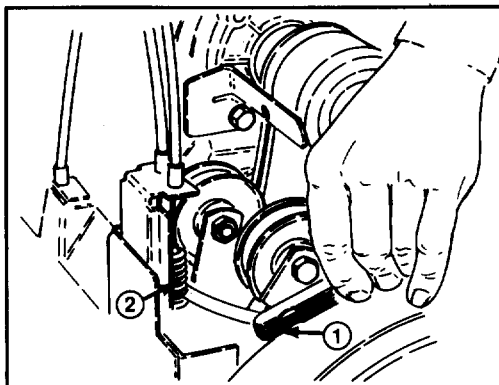

Figure 26
2. **CHECKING IMPELLER CABLE ADJUSTMENT**—With the engine off, depress the impeller lever on the right handgrip. Hold the lever and insert a .010" (.25mm) feeler gauge between the coil in the center of the spring (Fig. 26). If there is less than 1/8" clearance, belt must be replaced.